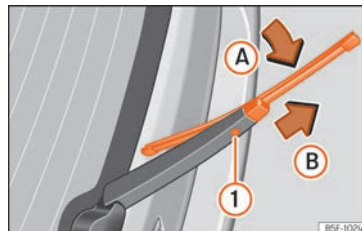

Fig. 40 Removing and fitting the rear window wiper blade.
- Rotate the blade lightly » Fig. 40 (arrow A).
- Hold down the release button ❶ while gently pulling the blade in the direction of arrow B.
- Insert a new blade of the **same length and type** in the rear wiper arm in the opposite direction to the arrow B and hook into place button ❶.